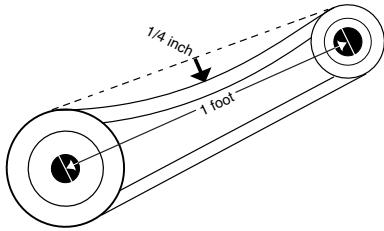

Figure 1
- b. Adjust the motor plate until proper tension is reached. For proper tension, a deflection of approximately 1/4" per foot of center distance should be obtained by firmly pressing the belt. Refer to *Figure 1*.